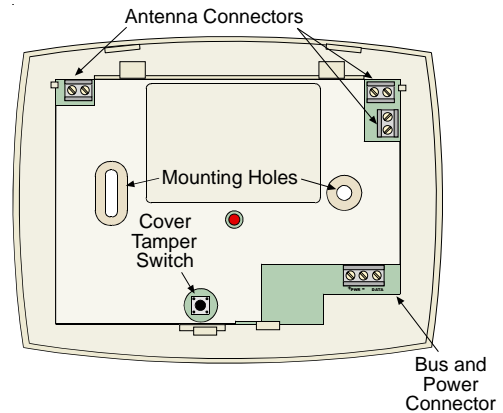

Figure 5 - Receiver with Outer Cover removed
- Place the Receiver base on the wall at the desired mounting location and mark the two Mounting Holes (see Figure 5).